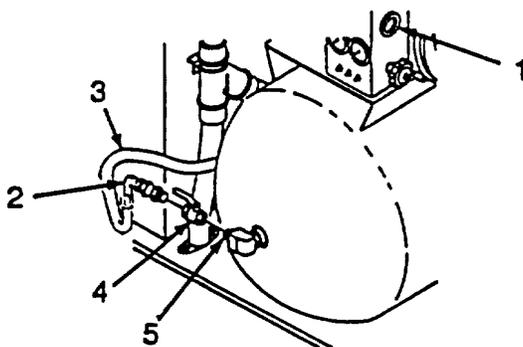

Figure 4-26. Shut-Off Valve
a. Removal. (Refer to Figure 4-26).
- (1) Open condensate drain valve on reel cabinet to relieve tank pressure.
- (2) Verify that pressure has been relieved by reading the air pressure gauge (1) It should read zero.
- (3) Disconnect elbow swivel (2) and hose (3) from shut-off valve (4).
- (4) Disconnect shut-off valve (4) from hex nipple (5).